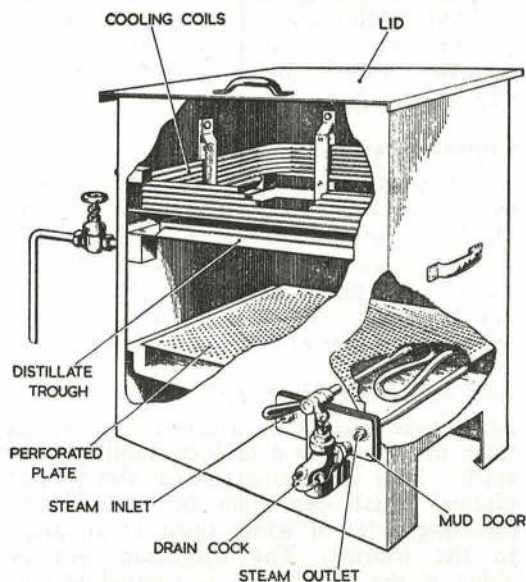

Fig. 11. TYPICAL VAPOUR DEGREASING UNIT (CUT-AWAY)
19. **Vapour Type.** When using this process the components are suspended in the vapour from the boiling liquid. The lid of the degreaser should be opened and the components gently lowered until they come to rest on the perforated plate (Fig. 11), the lid then being immediately closed. The cleansing action ceases when the temperature of the components reaches that of the vapour, thus, if further degreasing is necessary the components must be removed, allowed to cool, and the process repeated. In order to prevent corrosion, the parts should be coated with clean thin oil or approved rust preventive as soon as possible after removal from the degreaser. The trichlorethylene will be conserved if all parts are washed in kerosine before being placed in the degreaser, care being taken to remove all traces of kerosine.